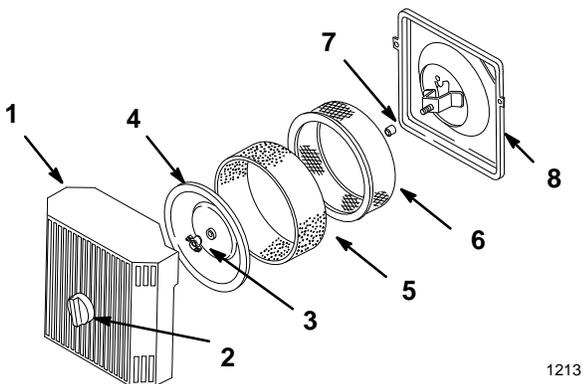

Figure 15
3. Clean around the air cleaner to prevent dirt from getting into the engine and causing damage. Unscrew the knob and remove the air cleaner cover (Fig. 15).
4. Carefully slide the foam element off the paper element (Fig. 15).
5. Unscrew the cover nut and remove the cover and paper element (Fig. 15).
1. Carefully slide the foam element onto the paper air cleaner element (Fig. 15).
2. Slide the air cleaner assembly and cover onto the long rod. Now screw the cover nut finger-tight against the cover (Fig. 15).
3. Install the air cleaner cover and tighten the knob (Fig. 15).